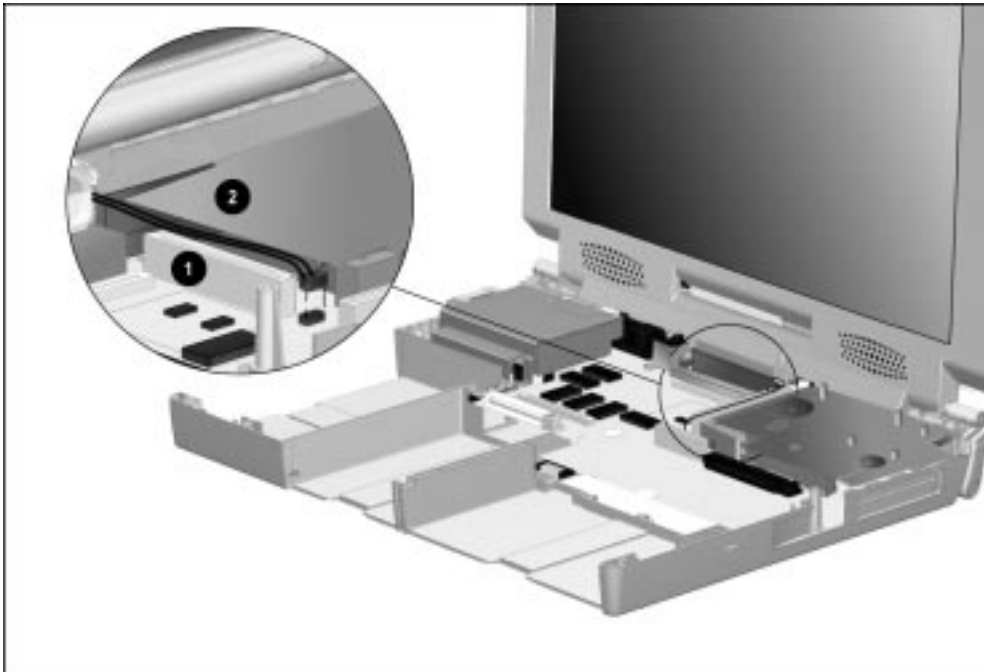

Figure 5-57. Connecting the Auxiliary Battery Cable to the System Board
11. Route the auxiliary battery cable between the modem connector ❶ and the audio assembly bracket ❷ (Figure 5-57).